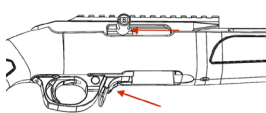

Fig. 6.2
- Lock bolt in the rearward position using the bolt lock mechanism. (Fig 6.2).